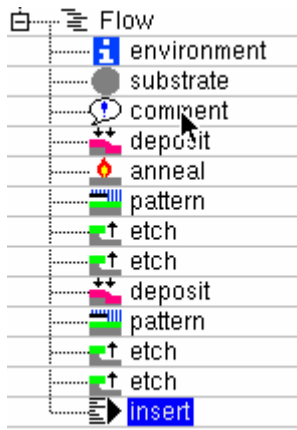
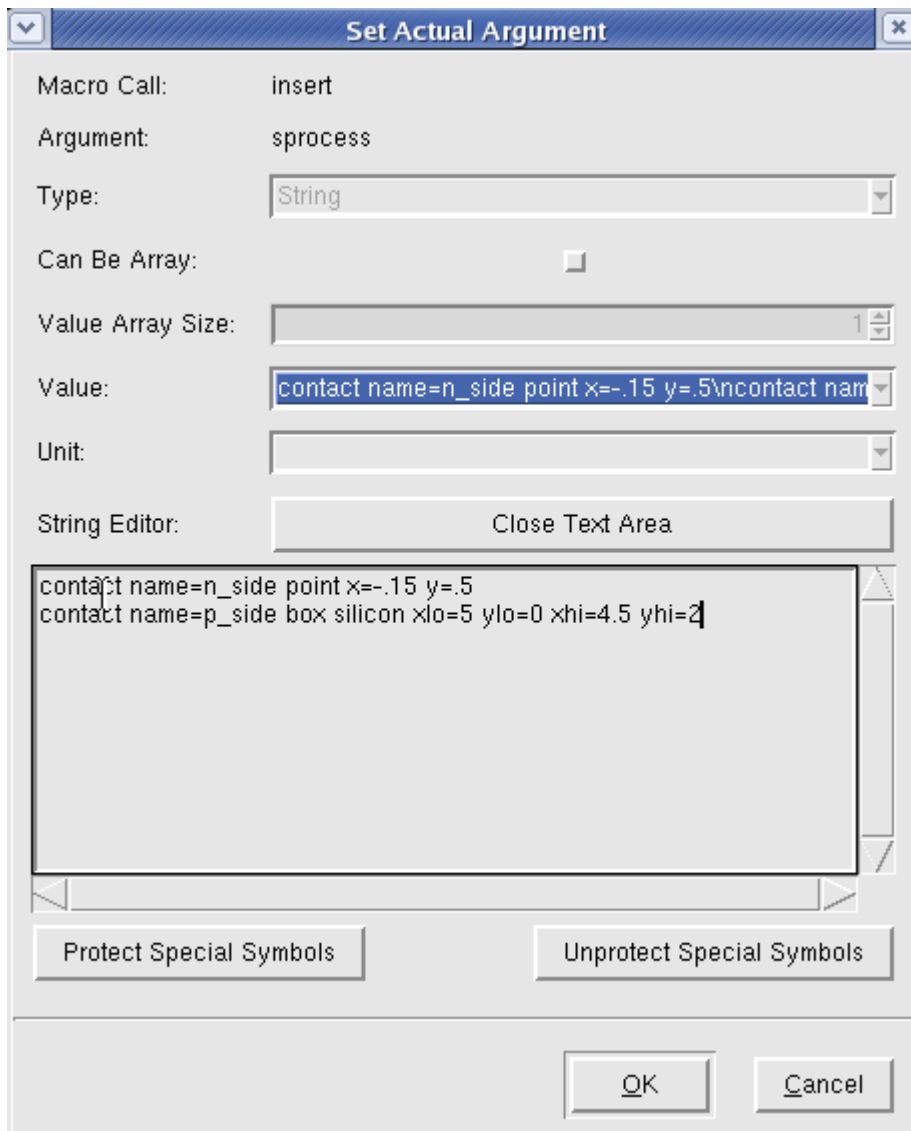

Figure 98: adding an insert macro call.
Figure 99: Setting the insert marco call for contacts.
26. To make electrical contacts, add and insert macro call (Figure 98), double click on sprocess and open up the text area and fill in exactly as shown (Figure 99).